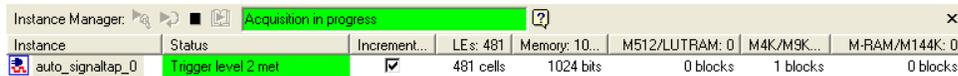

Figure 18. Instance manager window after first two switches have been switched to 1.
- Go back to the SignalTap II window, click on the Data tab, and then click **Run Analysis**. Note that the window will say "Waiting for trigger" until the appropriate trigger condition is met. Then, in sequence, flip to 1 switches 0, 1, 2, and then 3. Each time you flip each switch, the status column of the Instance Manager of the SignalTap window will say a trigger condition has been met. Figure 18 shows what this window looks like after the first two switches have been flipped to 1.